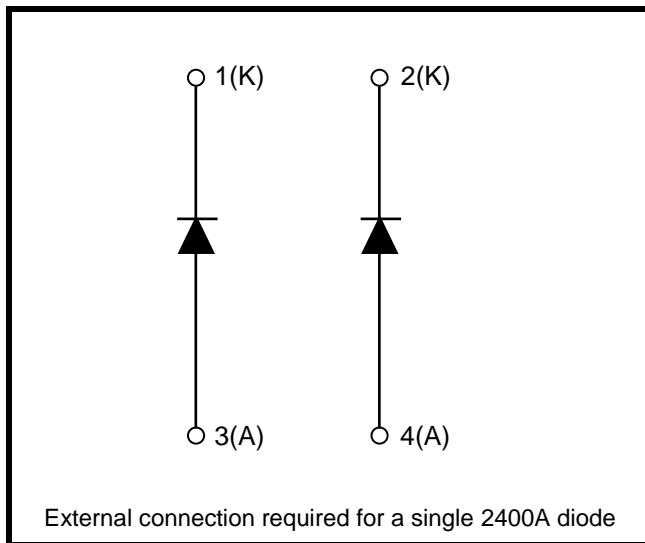
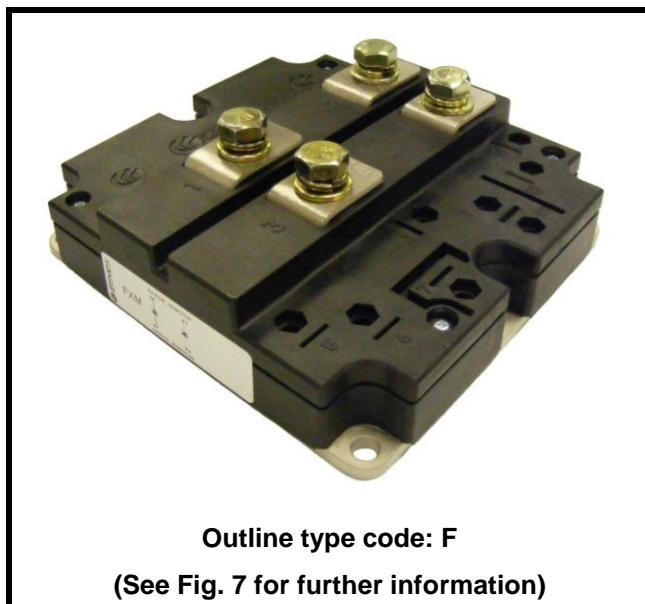

Fig. 1 Circuit configuration
Fig. 2 Package
**Fig. 1** Typical on-state characteristics, chip level**Fig. 2** Typical transfer characteristics, chip level**Fig. 3** Typical output characteristics, chip level**Fig. 4** Typical output characteristics, chip level